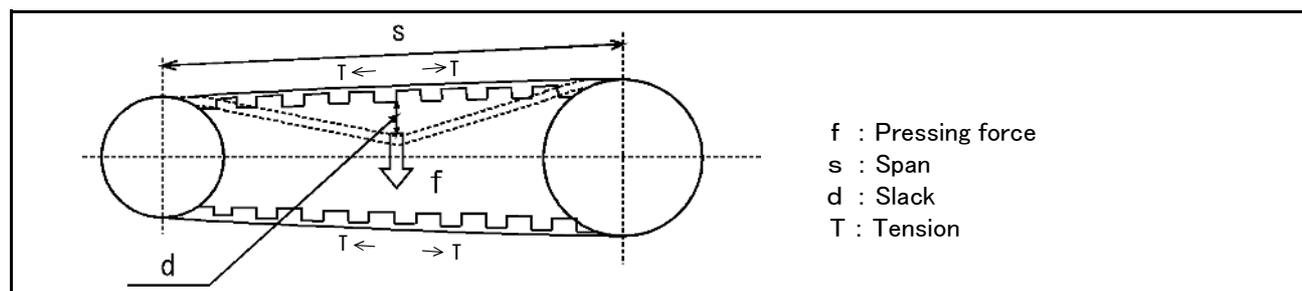

Fig.5-14 : Belt tension
- 3) Visually confirm that the symptoms indicated in " (1)Timing belt replacement period" have not occurred with the <4> timing belt.
- 4) Lightly press the center of the belt, and confirm that the value of belt slack is in following. The tension of the belt is shown also in Page 85 "Fig. 5-14: Belt tension".
The timing belt can satisfactorily convey the drive and keep a durable force only when it has an adequate tension. The belt tension should not be too tight or too loose. Instead, it should be adjusted to a degree that elasticity is felt when the belt is pressed with the thumb. If the belt tension is too weak, the belt loosening side will vibrate. On the other hand, if the belt tension is too strong, a sharp sound will be heard and the belt tension side will vibrate. The detailed adjustment (tension) is shown in Fig. 5-14.